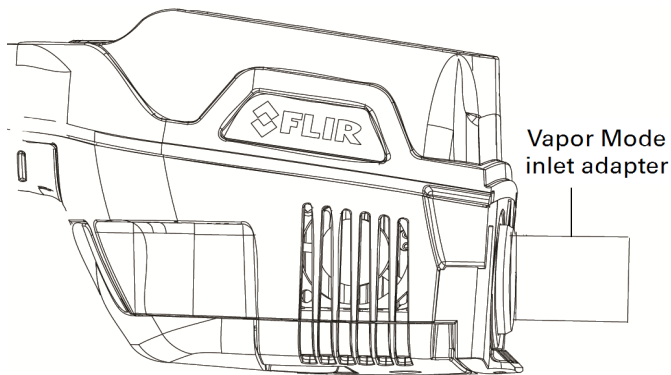

Figure 5-23: Presenting the Vapor Mode inlet adapter
Step 2: Press the uncapped end of the inlet adapter against the exposed tip of the Detector inlet as shown in Figure 5-23.